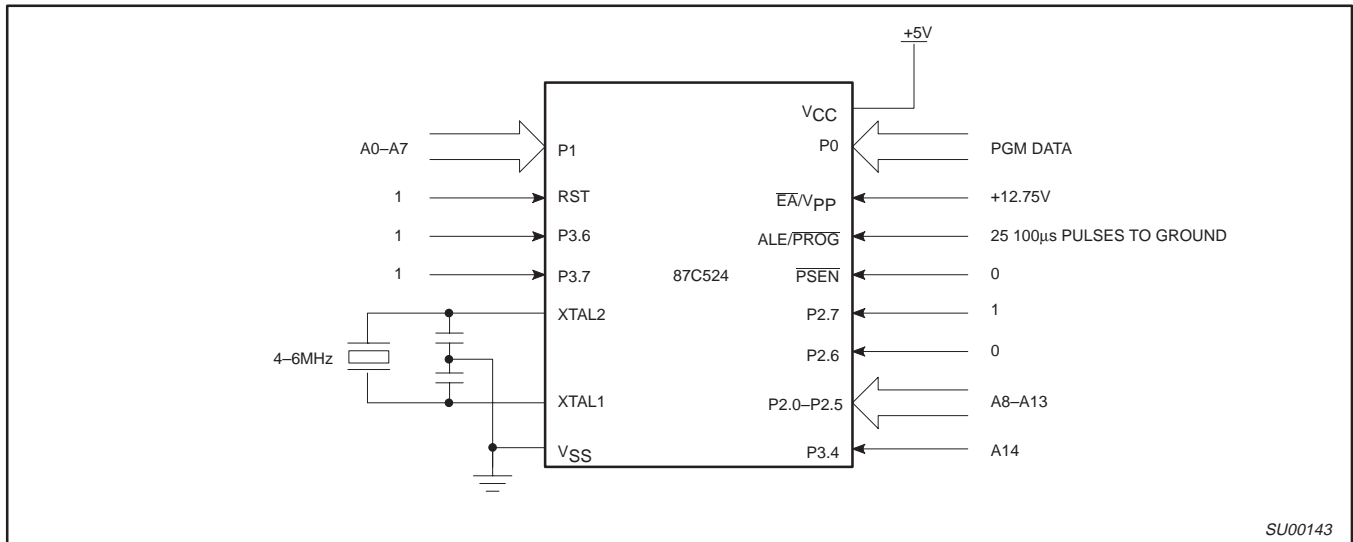
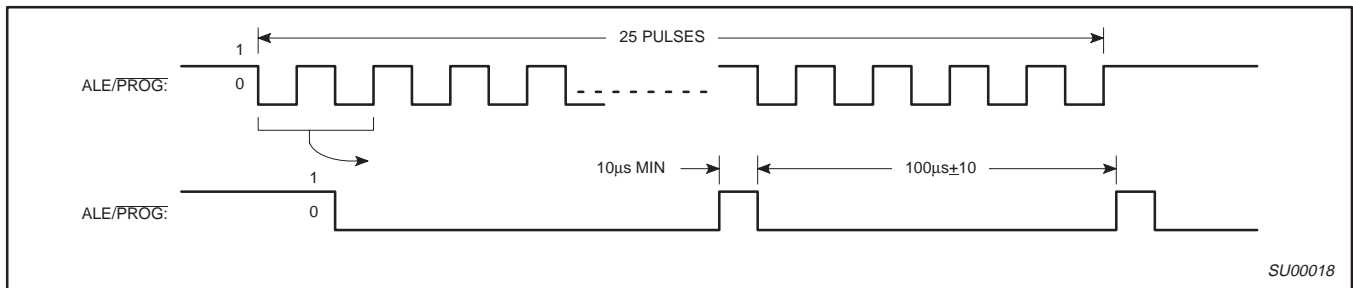
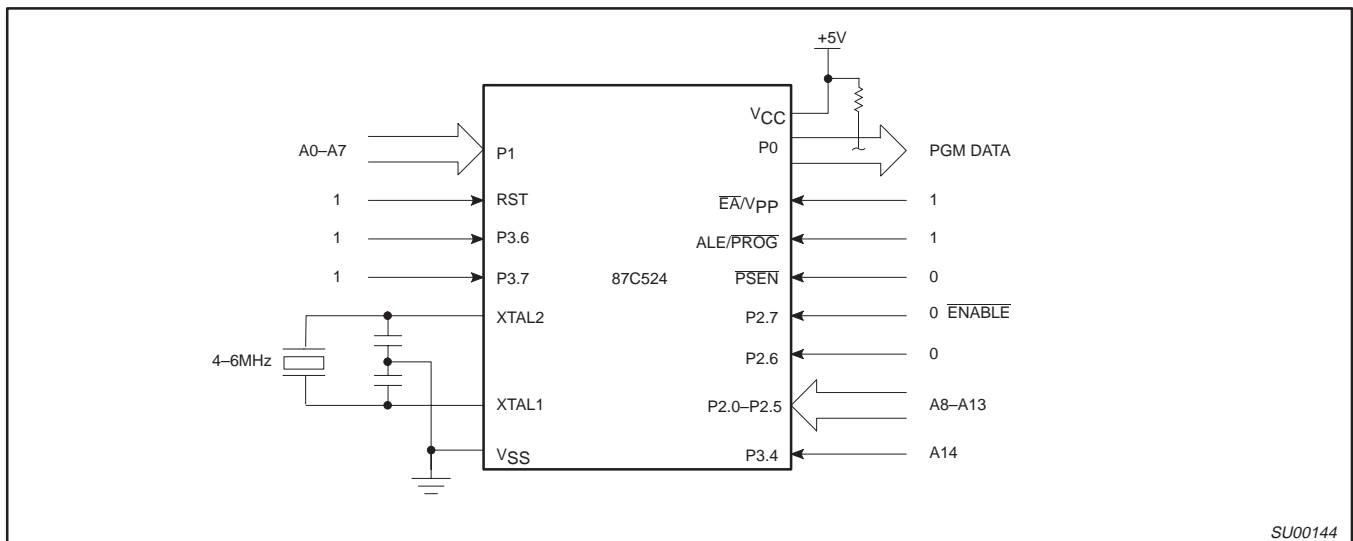

Figure 14. Programming Configuration
Figure 15. PROG Waveform
Figure 16. Program Verification
Table 6 shows the logic levels for reading the signature byte, and for programming the program memory, the encryption table, and the lock bits. The circuit configuration and waveforms for quick-pulse programming are shown in Figures 14 and 15. Figure 16 shows the circuit configuration for normal program memory verification.
The setup for microcontroller quick-pulse programming is shown in Figure 14. Note that the 87C524 is running with a 4 to 6MHz oscillator. The reason the oscillator needs to be running is that the device is executing internal address and program data transfers.
The address of the EPROM location to be programmed is applied to ports 1, 2 and 3, as shown in Figure 14. The code byte to be programmed into that location is applied to port 0. RST, \overline{PSEN} and pins of ports 2 and 3 specified in Table 6 are held at the 'Program Code Data' levels indicated in Table 6. The ALE/ \overline{PROG} is pulsed low 25 times as shown in Figure 15.
If lock bit 2 has not been programmed, the on-chip program memory can be read out for program verification. The address of the program memory locations to be read is applied to ports 1, 2 and 3 as shown in Figure 16. The other pins are held at the 'Verify Code Data' levels indicated in Table 6. The contents of the address location will be emitted on port 0. External pull-ups are required on port 0 for this operation.
* FOR PROGRAMMING VERIFICATION SEE FIGURE 14.
FOR VERIFICATION CONDITIONS SEE FIGURE 16.